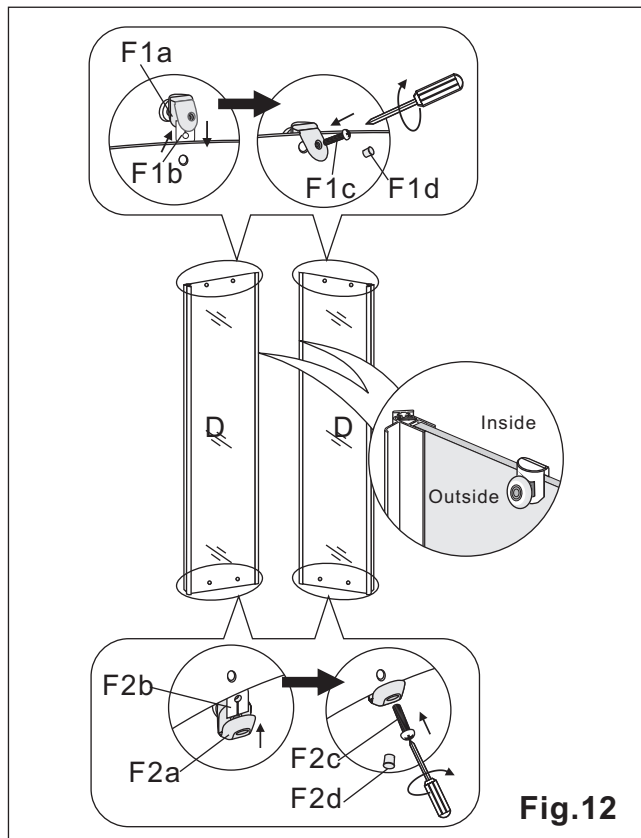

Fig.12
12. Fit the top (F1) and bottom rollers (F2) to the movable glass (D) ensuring the correct orientation as illustrated in **Fig.12**.